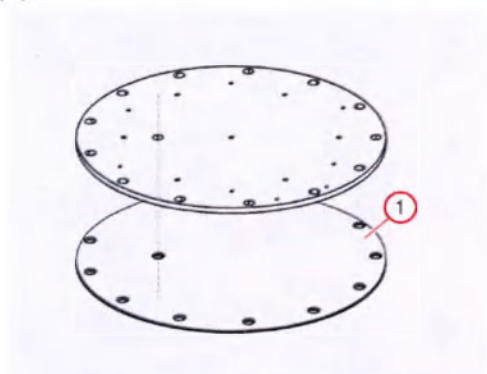
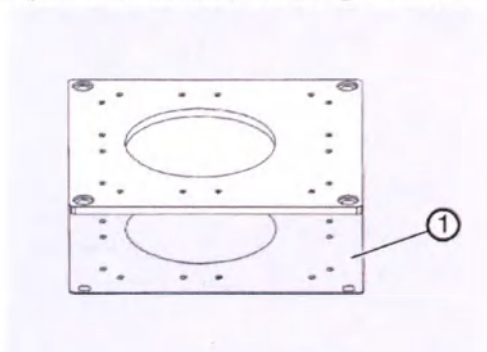

Fig. 20: Floor stand, installing the insulation plate
Fig. 21: Table, installing the insulation plate
5 Place an insulation plate under each of the mounting plates for the floor stand and the table Fig. 20 (1) Fig. 21 (1).